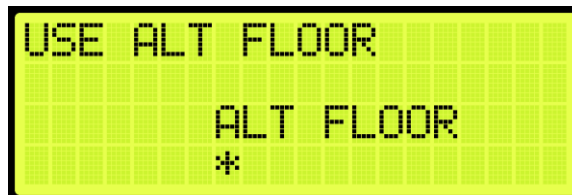

Figure 612: USE ALT FLOOR Menu
5. From the USE ALT FLOOR menu, scroll to select alternate landing or main recall landing (See Figure 612).